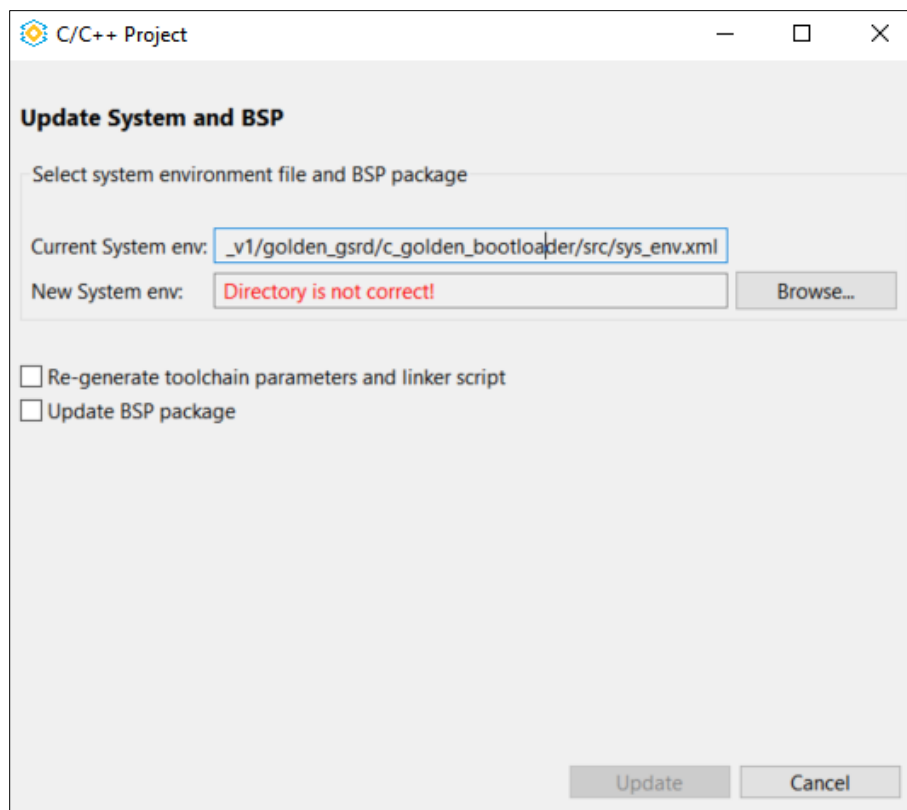

Figure 8.2. New System env Error
- In Propel SDK, right-click on the software project that you are working on and select **Update Lattice C/C++ Project**. In the **Update System and BSP** dialog box, you may observe a **Directory is not correct!** error as shown in Figure 8.2. This is because the software project is created in another PC with a different system environment path when the project is imported to Propel SDK.